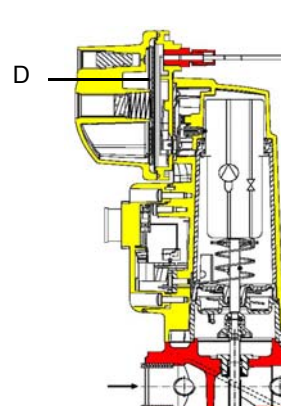

Fig. 18
**Caution:** the SKP2 diaphragm **D** must be vertical (see Fig. 18).